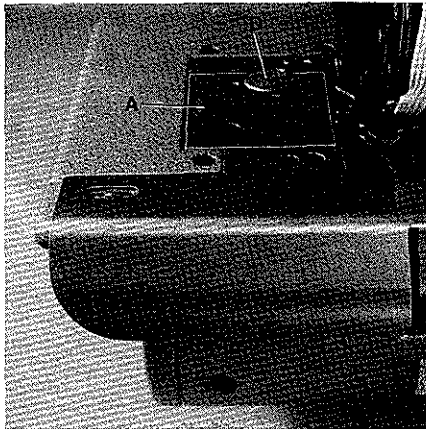
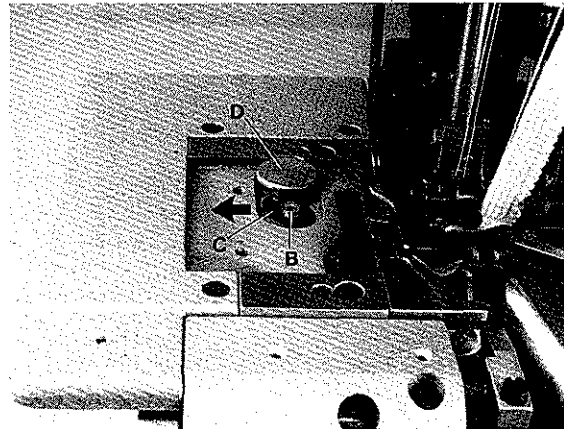
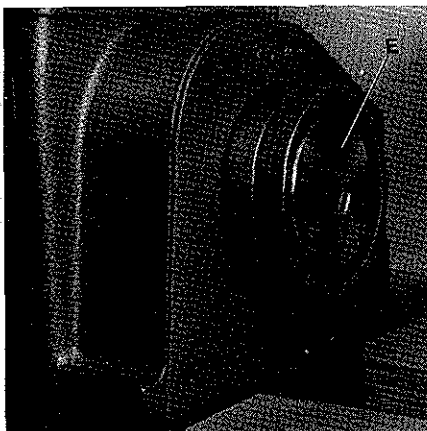

Fig. 33
Fig. 34
Fig. 35
Before the machine leaves the factory, the stitch length change mechanism is locked. After removing cover (A, Fig. 33) and loosening screw (B, Fig. 34) lever (C) can be swung in the direction of the arrow to the left to unlock the stitch length change mechanism. The required hexagon socket wrench is a component of the machine accessories.
The stitch length is changed by slightly pressing push button (D, Figs. 33 and 34) and simultaneously rotating pulley (E, Fig. 35). Within one revolution of the pulley push button (D, Fig. 33) engages and the stitch length change starts. Rotating pulley clockwise shortens the stitch, rotating it counterclockwise increases the stitch. After setting the desired stitch length, the mechanism can be locked again.